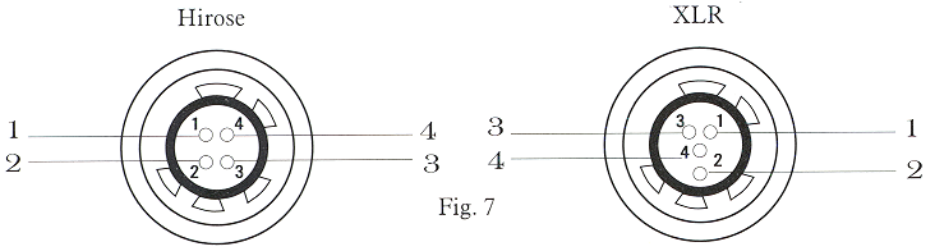

Fig. 7
7. The pin arrangement of the transmitter's connector jack is shown in Fig. 7. A unique feature of the M-303 is its separate high/low impedance and bias with the same jack for ECM input. You could properly match the high impedance input signals such as electric guitar, or low impedance input signals such as dynamic microphone, then choose the proper input connecting cable and plug correctly, as shown in Fig. 8, 9, and 10.